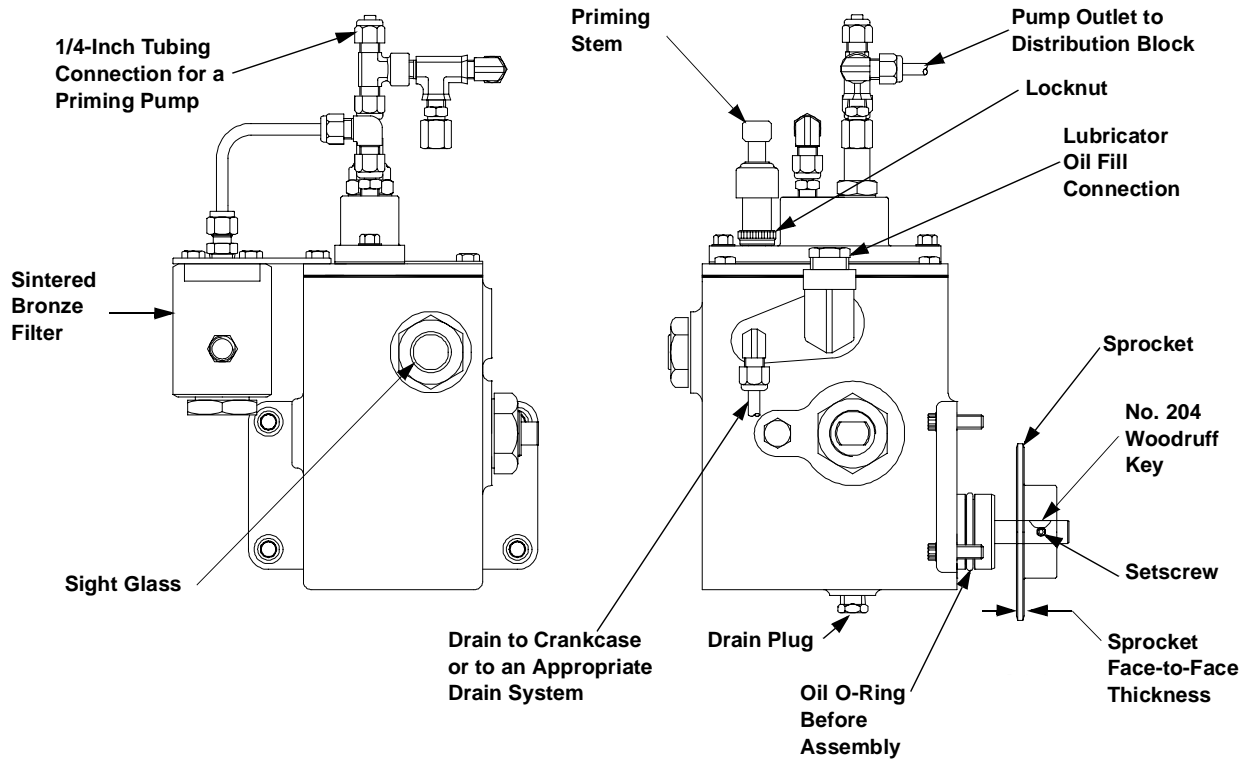

FIGURE 5-10: FORCE FEED LUBRICATOR AND SPROCKET - TYPICAL
1. Refer to Figure 5-10: on page 5-17.